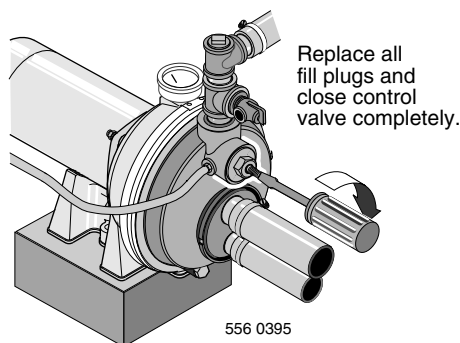

Figure 16: Prime Pump
2. Replace all fill plugs and close the control valve completely (Figure 16).